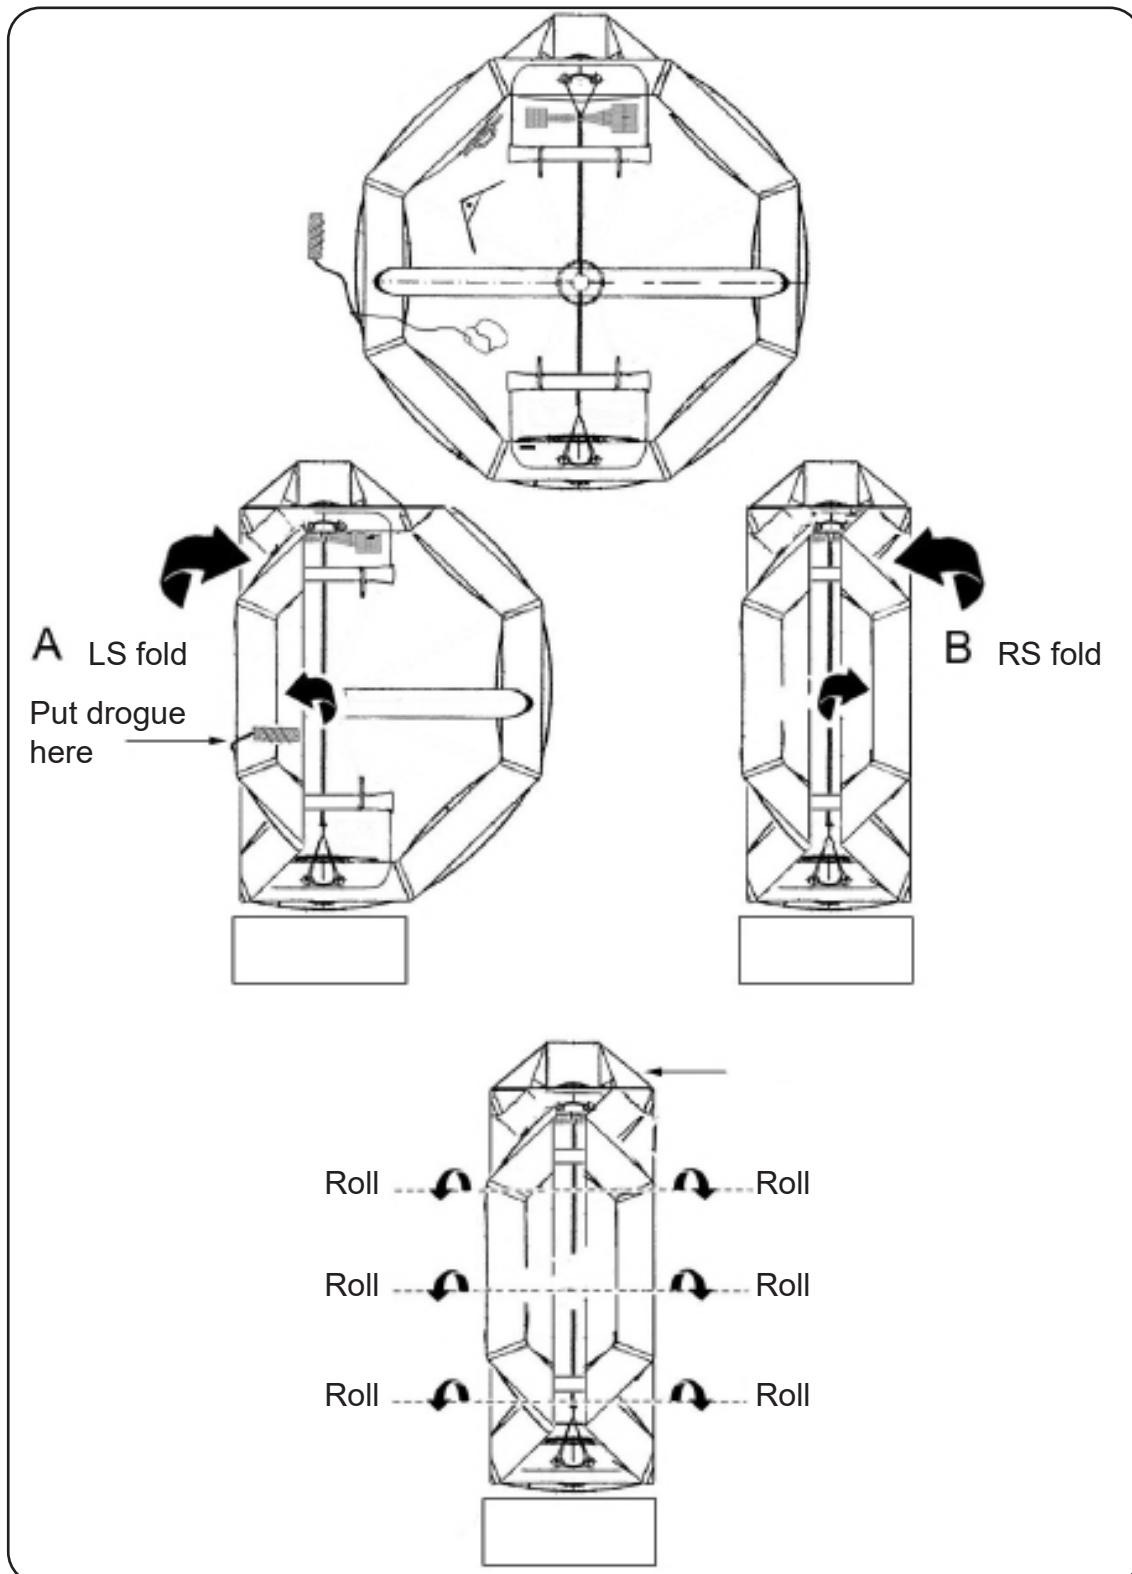

FIGURE 854
- (b) MK 14 container: Refer to FIGURE 854.